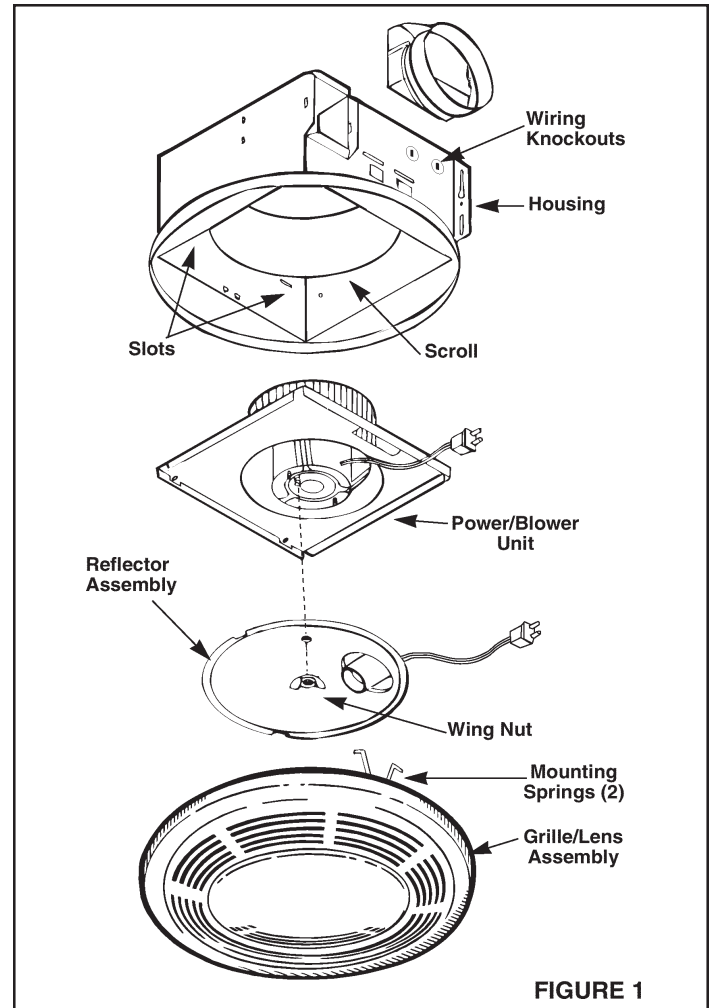

FIGURE 1
1. **Refer to Figure 1.** Remove power unit/blower assembly from housing.
1. Refer to Figure 1. Place power/blower unit into housing so that mounting plate's tabs insert into slots in housing.